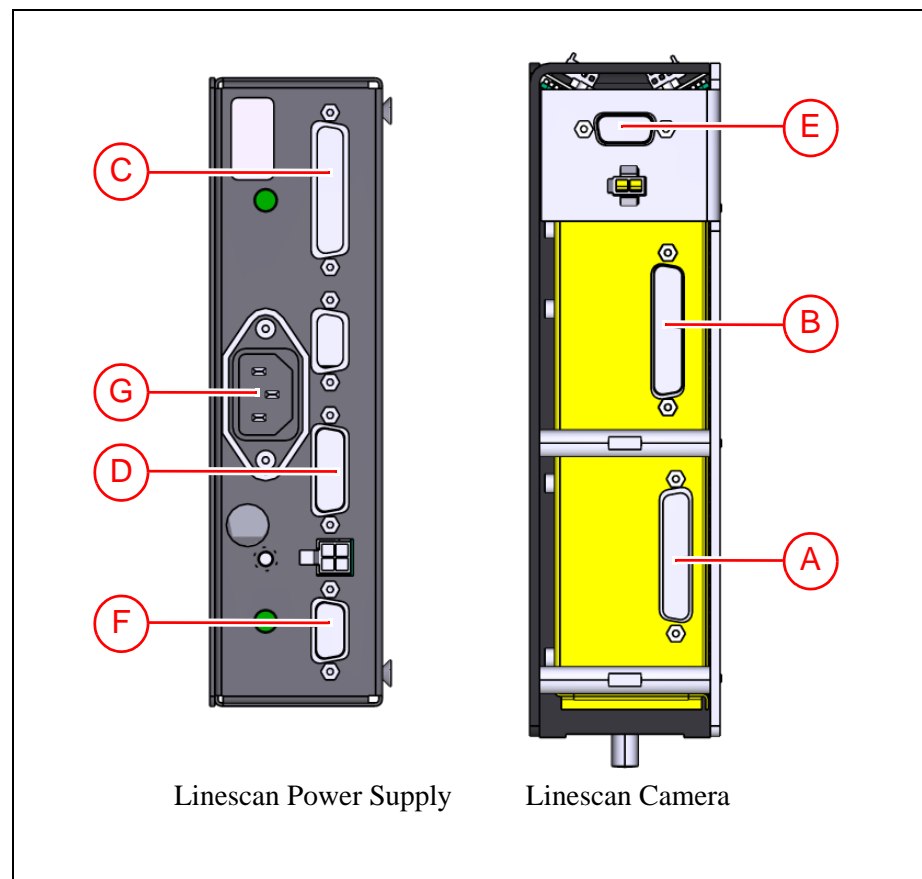

Figure 9-19. Cabling.
1. Connect multi video cable L-019-0868 between the camera box ('A' in Figure 9-19) and LSAD – XVIDEO (located in CB3 box).